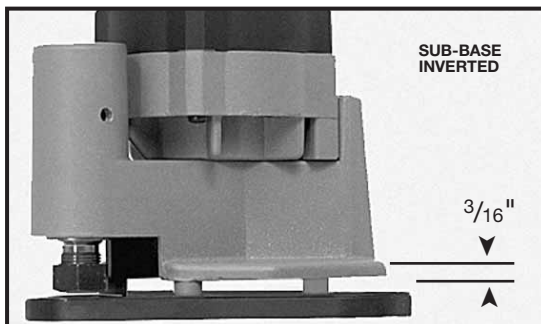

Fig. 12
4. When using long shank bits: The distance from the bottom of the sub-base to the collet may be increased (approximately $\frac{3}{16}$ ") by turning the sub-base over (See Fig.12):